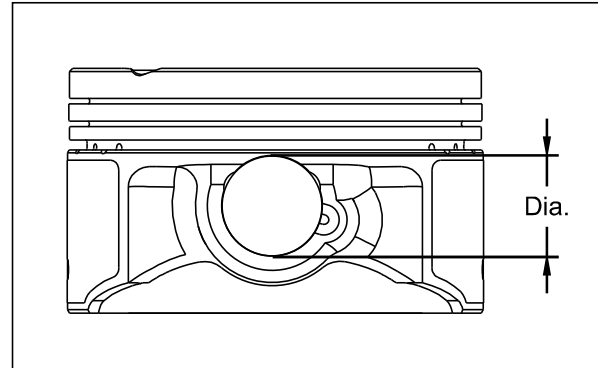

Fig. 3.95
- Check the pin piston bore ID of piston for wear. (Fig. 3.95)